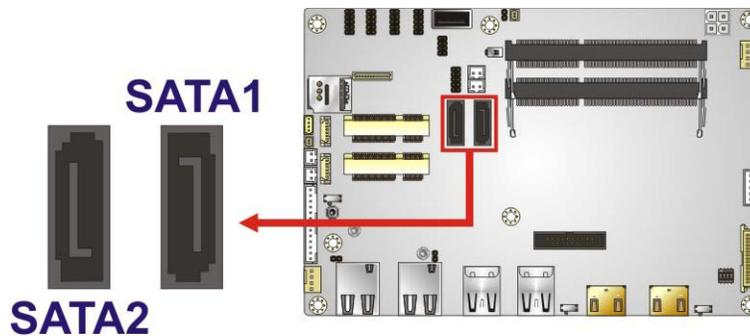

Figure 4-21: SATA 6Gb/s Drive Connectors Locations
- CN Location: See **Figure 4-21**